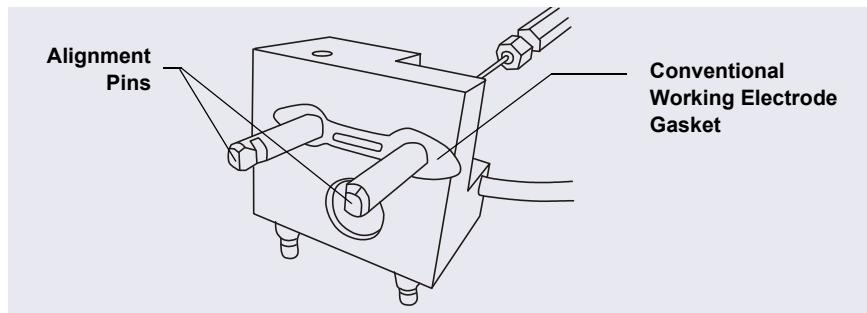

Figure 10-62. ED Cell Gasket for Conventional Working Electrodes
5. Use tweezers to remove the old cell gasket from the cell body (see Figure 10-62).